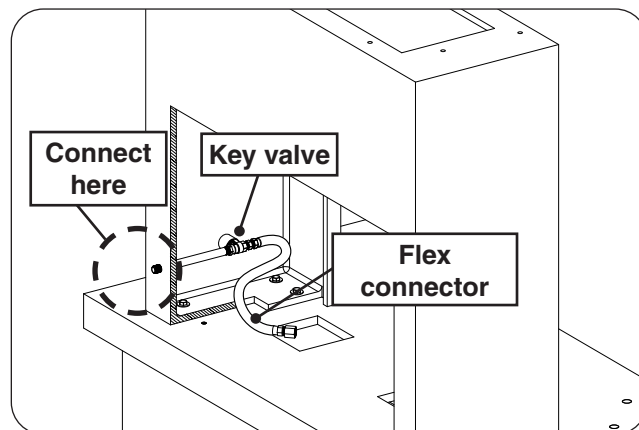

Fig. 22-1 Route gas supply
1. Route the gas supply (natural gas, household propane, or from an L.P. Cylinder) to the unit as applicable (see Fig. 22-1).